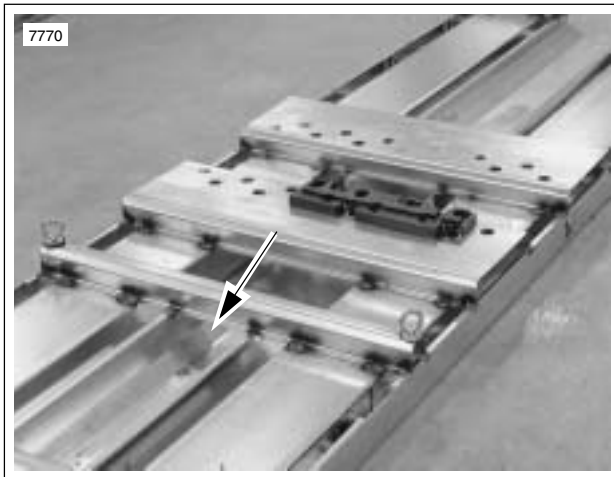

Figure 1-20. Vehicle Pallet
2. See Figure 1-20. Place a 2x4 in. (50.8x101.6 mm) board between steel cross braces (see arrow) behind front tire to aid rolling motorcycle rearward off pallet.